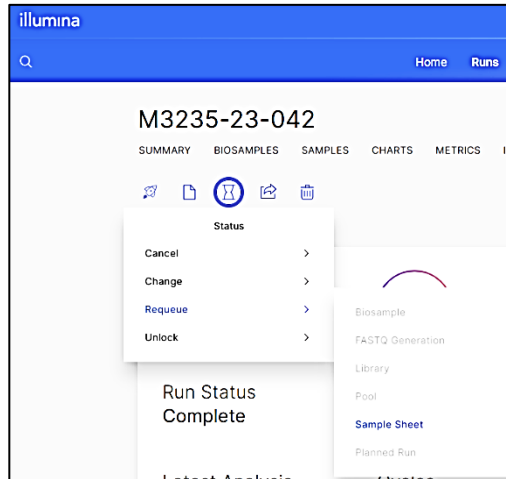

Figure 12. Finding the sample sheet for the run to be requeued.
2.2.3. Click on the “Status” icon and from the drop-down menu, select “Requeue” and “Sample Sheet” (Fig. 12).